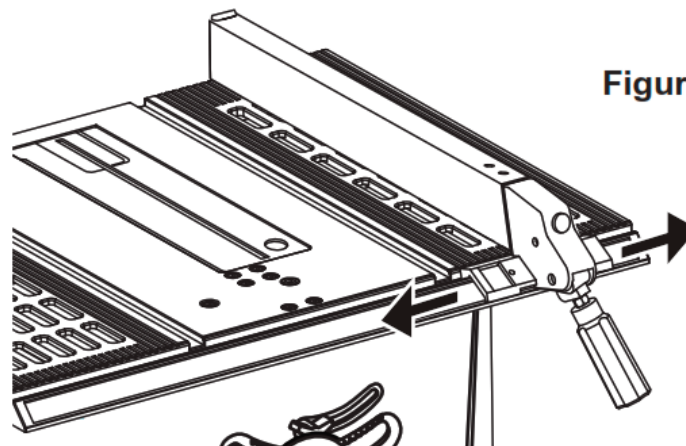

Figure 16
3. To adjust the position of the Fence, raise the Fence Handle and slide the Fence along the Work Table. Once position is adjusted, lower the Fence Handle to lock the Fence in place. See Figure 16.